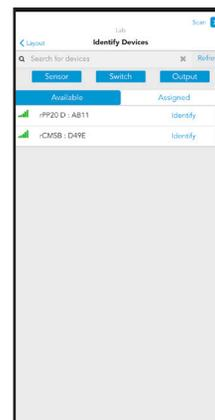

Figure 12: Identify and Select Devices
3. The **Identify Devices** screen (Figure 12) will provide a list of nLight AIR devices, sorted by signal strength. If you click the **Refresh** button, the devices will re-sort based on the signal strength. If you do not see any devices in the list, ensure your mobile device's bluetooth is turned on, make sure you're in range of the devices (within about 60ft), and make sure that the device type is included in the filter at the top. Some devices, such as switches and battery powered sensors, require a button push in order to wake them up and turn the bluetooth radio on.